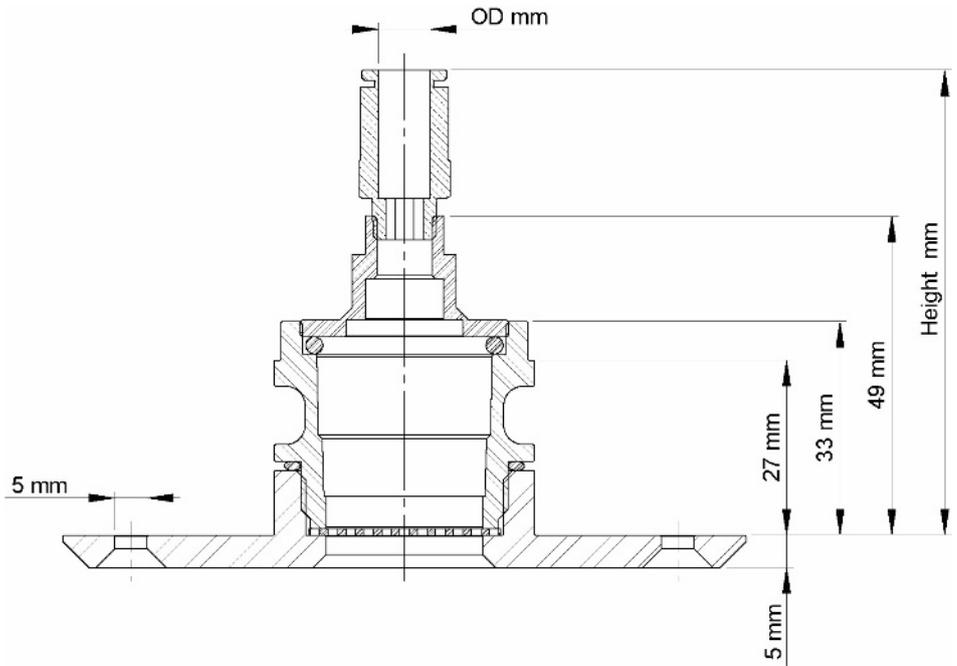

Figure 3: Illustration of the Tamperproof Sampling Point for Capillary Connections
Tamperproof Sampling Points VSP-620-01, VSP-620-02 and VSP-620-03 have an adapter fitted into the pipe socket which allows for Outside Diameter (OD) connection to 6mm (15/64"), 8mm (5/16") and 10mm (25/64") capillaries respectively, as shown in Figure 3.